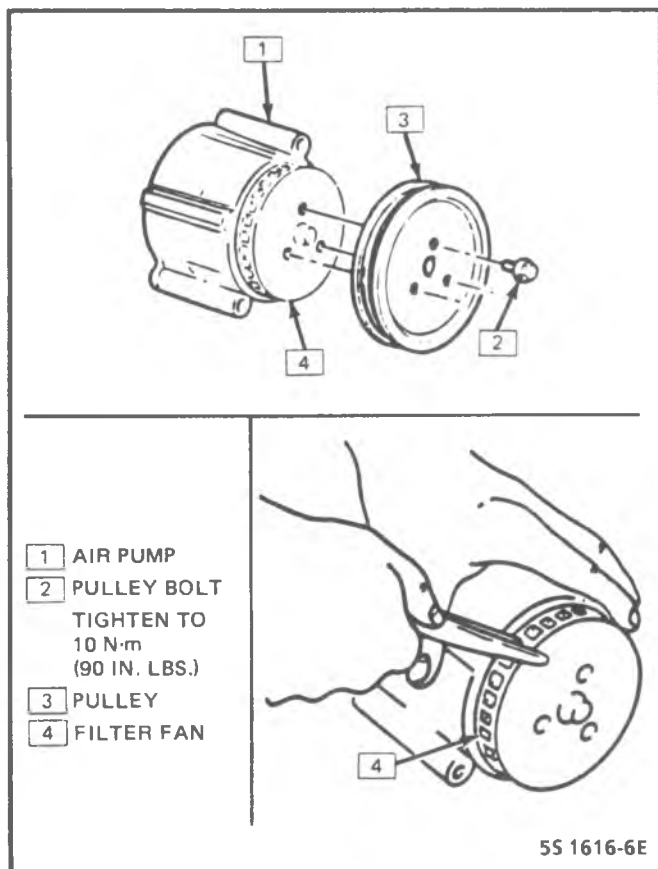

Figure 8-5 - Pump Filter Fan Service
5. If required, insert needle nose pliers and pull filter fan from hub (see Figure 8-5).